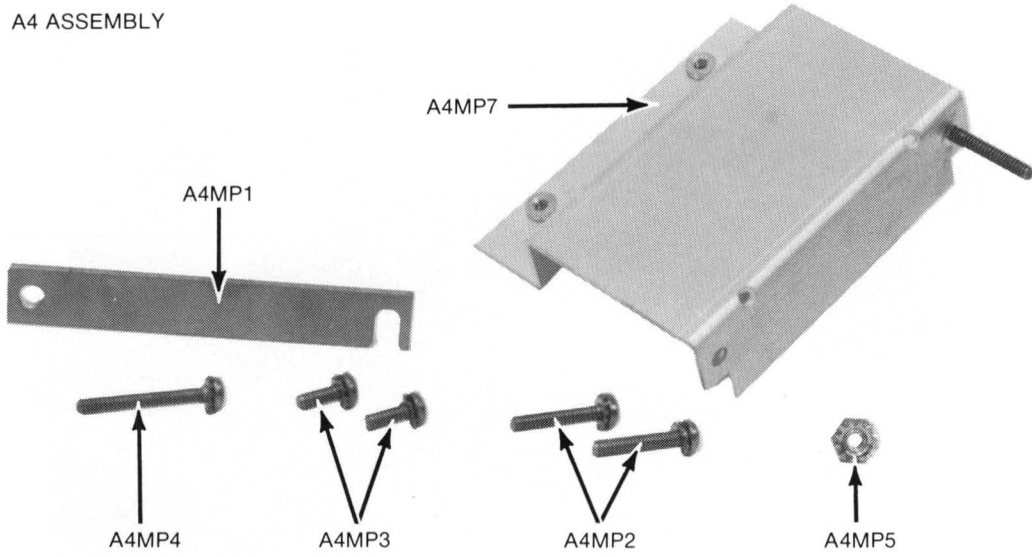
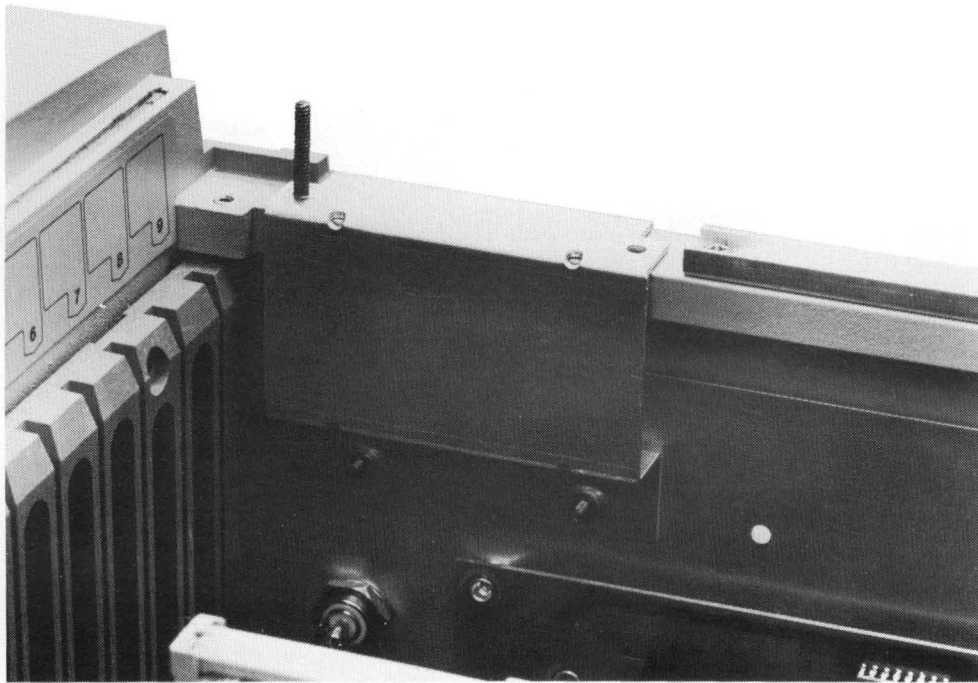
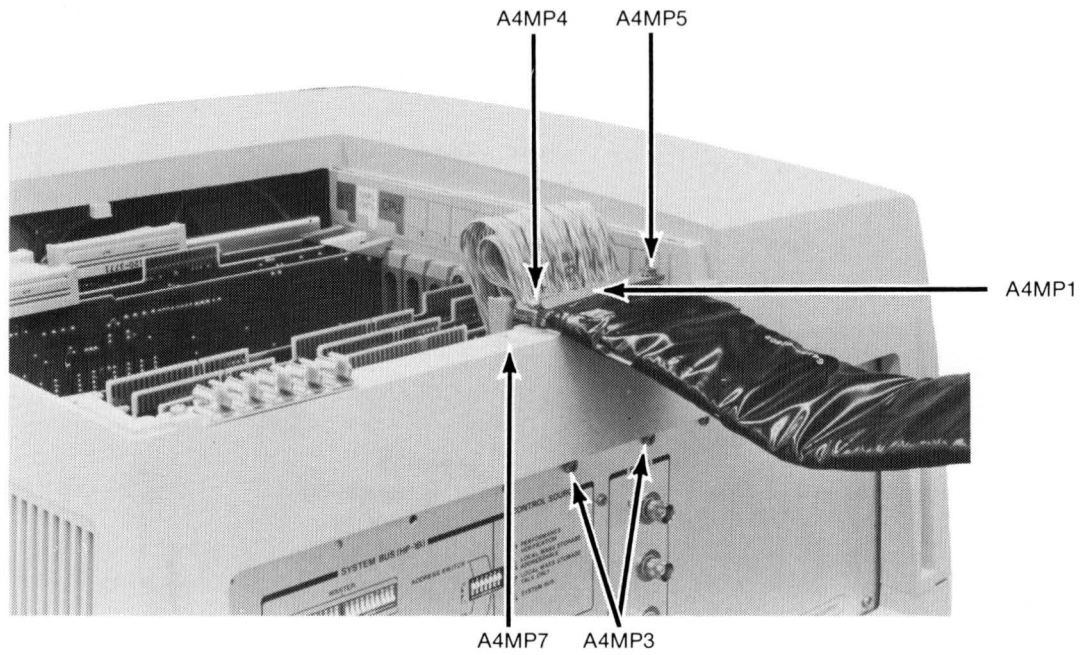

Figure 2-11. RFI Ground Bracket Assembly Parts
Figure 2-12. RFI Ground Bracket Installation (64100A)
Figure 2-13. Ground Bar Clamp Installation (64100A)
- c. If you are installing the 64224S in a 64100A development station, verify that the RFI Ground Bracket (A4MP7; shown in figure 2-11) has been installed in the mainframe as shown in figure 2-12. If it has not, go to the paragraph entitled "RFI Ground Bracket Installation" in this section to install the bracket. After installation, proceed with step d.
k. The ground bar clamp must now be attached to the emulator pod cable shielding and to the mainframe to provide RFI suppression. Refer to Figure 2-11 for an illustration of the clamp (A4MP1); refer to either figure 2-12 (64100A) or figure 2-13 (64110A) as appropriate for details concerning clamp installation while following the procedure given below.
3. Insert the long screw (A4MP4; depicted in figure 2-11) into the slot end of the ground bar clamp. Continue by inserting the screw through the free end of the ground shield braid and on into the RFI ground bracket. Attach a nut (A4MP5) to the free end of the screw (inside the top cover of the development station at this point) and tighten firmly enough to hold the bar clamp in place but not so tight as to damage the emulator pod cables.
- b. Place the RFI bracket on the top rear cover of the mainframe in the rightmost cable position (as viewed from the rear of the station) with the threaded stud on the bracket pointing upwards and the U-shaped portion of the bracket to the inside of the card cage. Refer to figure 2-12 for details.
- c. Refer to figure 2-13. Thread two screws (A4MP3) into the RFI bracket from the outside of the development station rear panel sheet metal. Tighten the screws firmly.